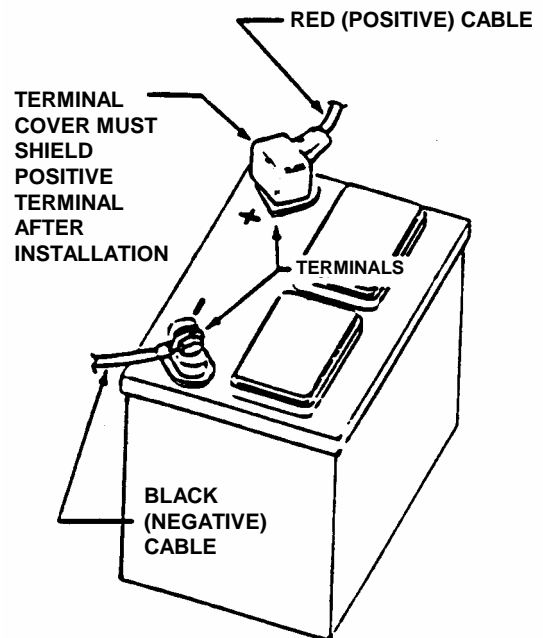

FIGURE 5.9
3. Reinstall battery retainer and positive terminal cover. See Figure 5.9